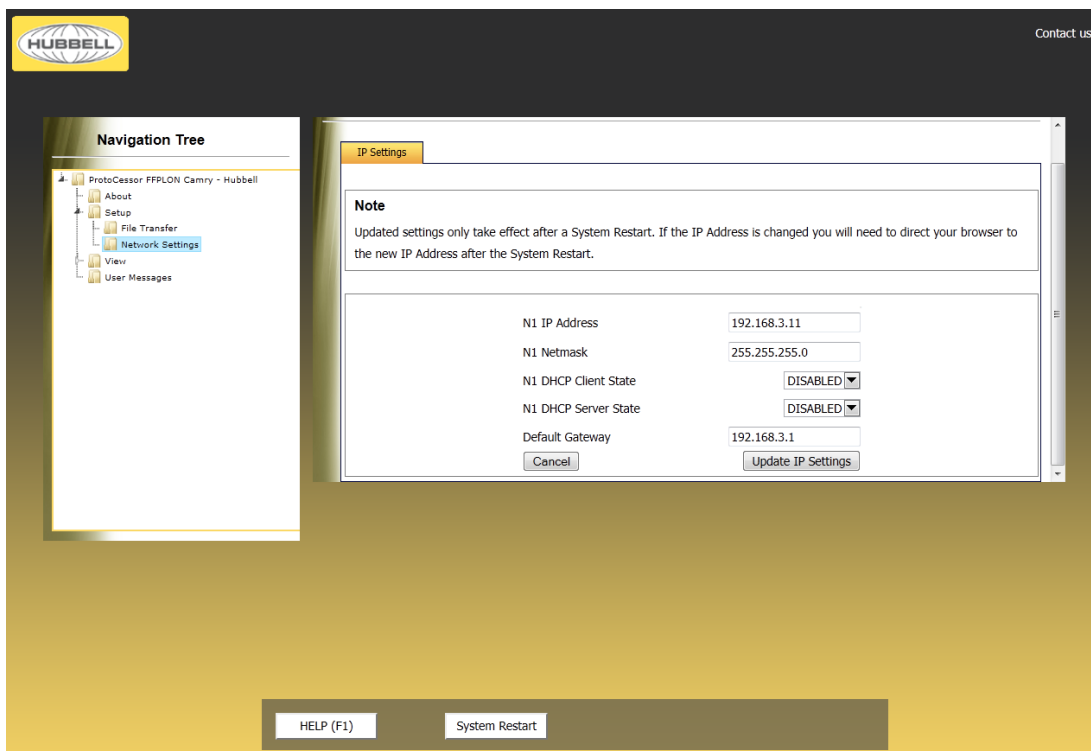

Figure 12: IP Setting GUI page
- From the Diagnostic and Debugging GUI page, click on setup and then Network Settings to enter the Edit IP Address Settings menu. See Figure 12